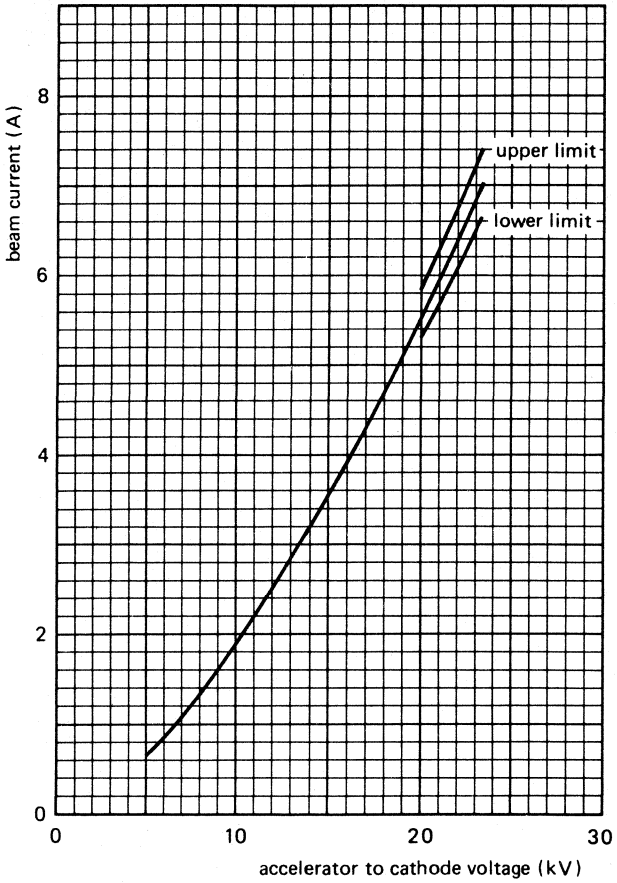

Fig. 2.
6. If the accelerator electrode is connected to the body (ground) via a 10 k $\Omega$  resistor, the cathode current is within  $\pm 5\%$  of the value given in the graph of Fig. 2.